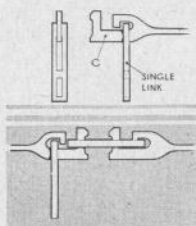

Fig. 2. The earliest form of coupling used on model trains.
The earliest form of coupling on model trains was of this type (see Fig. 2), and in theory it should work perfectly, for upon a train being shunted backwards, the single link should settle into the recess (c) and so form a rigid connection—with the front end (with its narrow slot) sitting tightly over the next hook. But in practice the links and hooks of this kind of coupling are invariably made of soft metal. The link expands readily and the hooks get bent, with the result that the "bar" will take up angles as (C) Fig. 1. This causes sideways forces to come into action, and certain vehicles are prised in the direction shown by the arrow and derailed. Moreover, once forced by pressure into an angled position, this coupling does not readily straighten out again, and although rounding a curve will cause derailment when the vehicles come once more to the straight.